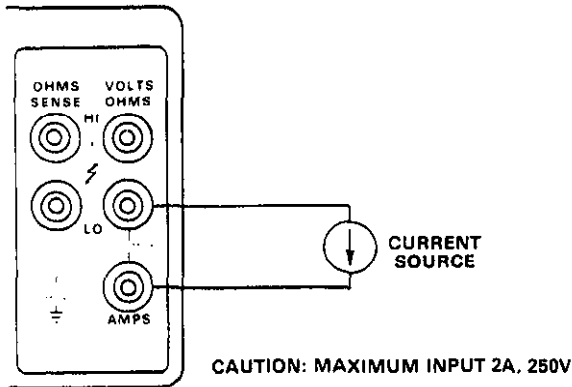

Figure 2-10. DC and AC Current Measurement (Front Panel Connections Shown)
6. Connect the Model 195 to the current source as shown in Figure 2-10.
- Connect the Model 195 to the current source as shown in Figure 2-10.